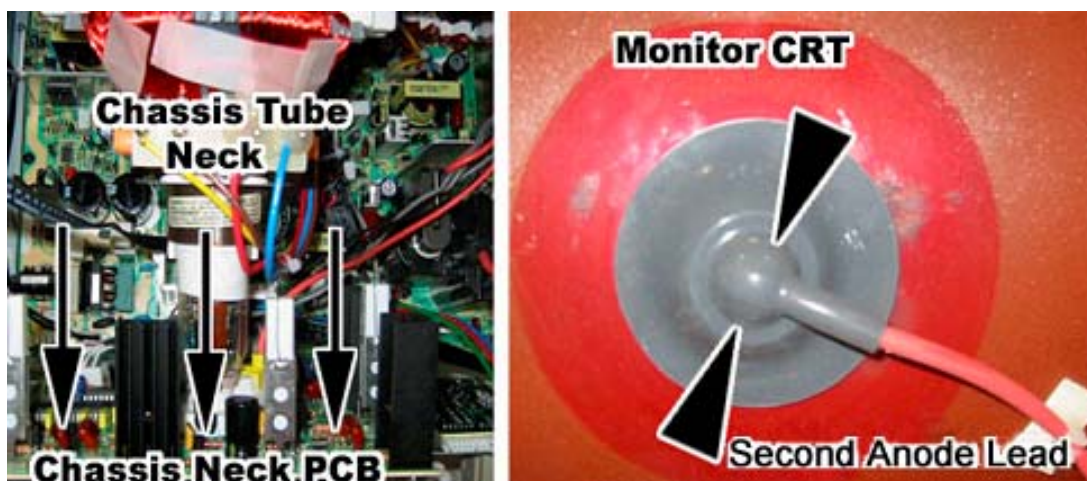

Figure 39. Disconnecting the Chassis Neck PCB and Second Anode Lead
5. Disconnect the second anode lead that connects to the CRT just above the Chassis Tube. Be very careful as the second anode lead can be charged with a VERY HIGH VOLTAGE even when powered OFF. Pinch the gray rubber flange and slightly push in to un-hook the metal prongs that hold the second anode lead to the CRT, shown by the arrows in Figure 39.